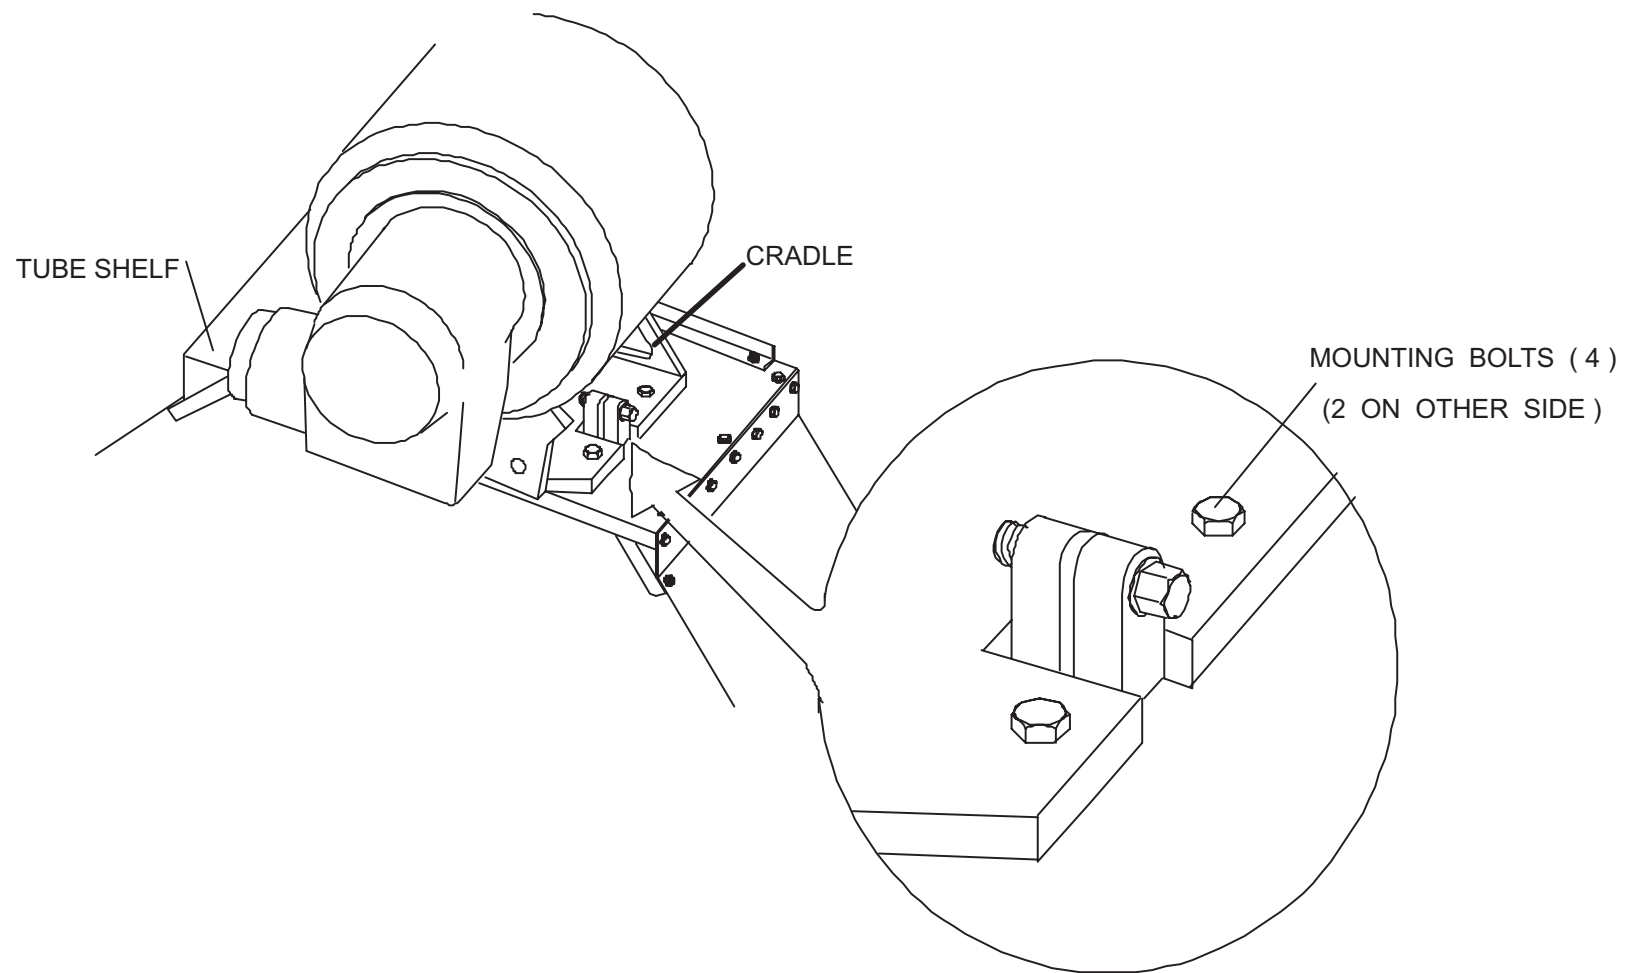

FIGURE 70 TYPICAL TUBE CRADLE ADJUSTMENT
21. Loosen the four (4) tube cradle mounting bolts but do not remove them. See Figure 70.